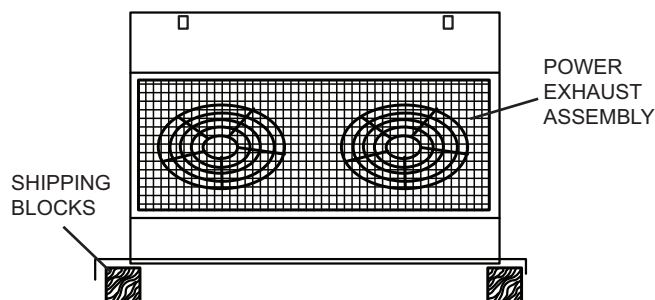

Fig. 3 — Shipping Block Removal
7. Remove the shipping blocks from the bottom of the accessory vertical power exhaust. (See Fig. 3.)